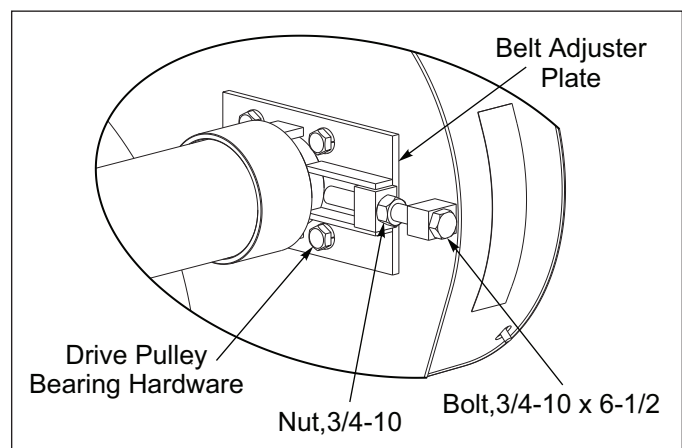

Figure 4-6: Belt Tension Adjustment
2. To adjust the Belt tension, adjust the Drive Pulley Belt Adjuster Plate on each side of the Shredder as required. **See Figure 4-6.** Loosen the Drive Pulley Bearing Hardware and the Belt Adjuster Plate 3/4-10 Nut. Adjust the Belt tension using the take-up 3/4-10 x 6-1/2 Bolt moving the Drive Pulley until the proper deflection force at 1-1/4" of deflection is achieved. Re-tighten the Belt Adjuster Plate 3/4-10 Nut and Drive Pulley Bearing Hardware. Either too high or too low belt deflection force will shorten Belt Life.